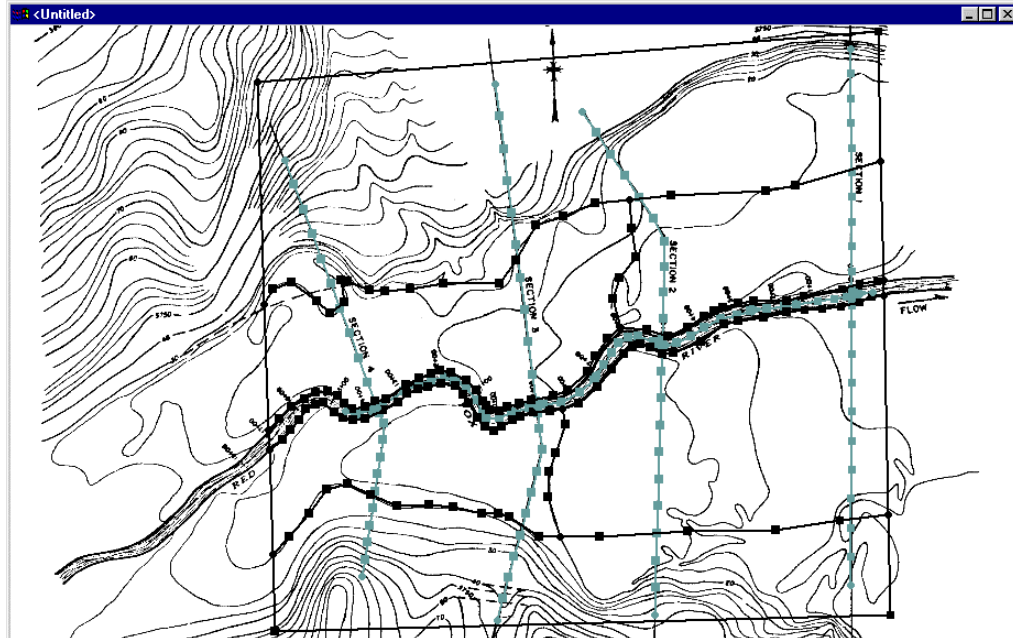

Figure 16-4 The land area boundaries.
3. Create arcs to separate the different land types. Outline material sections as shown in Figure 16-4.